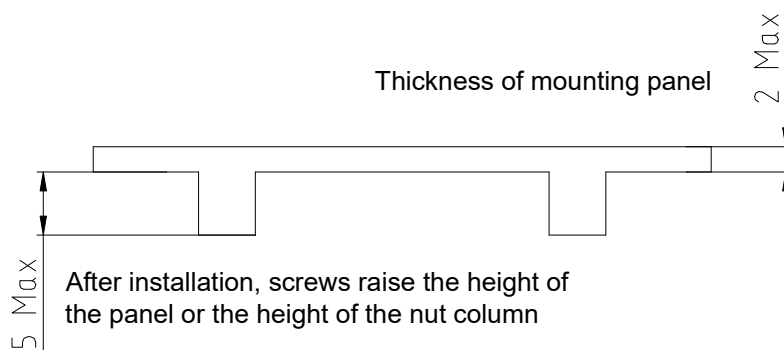

Figure 7
2.2. The socket is installed on the panel with four M3 or M4 screws. It is recommended that the thickness of the panel and the installed screws after installation exceed the length of the Panel, as shown in Figure 7. The screw tightening torque is 0.6-0.8N.m or 1.8-2.2N.m.